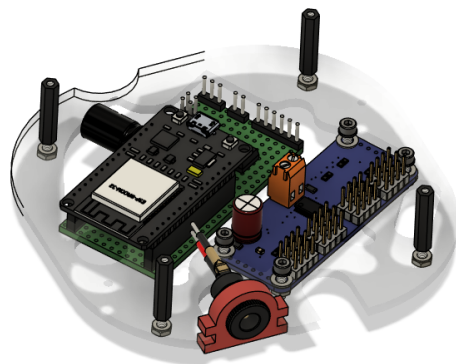

Figure 10: The completed Electronics Plate assembly.
4. Affix the M2.5x24mm standoffs as spacers. This assembly should mirror Figure 10.